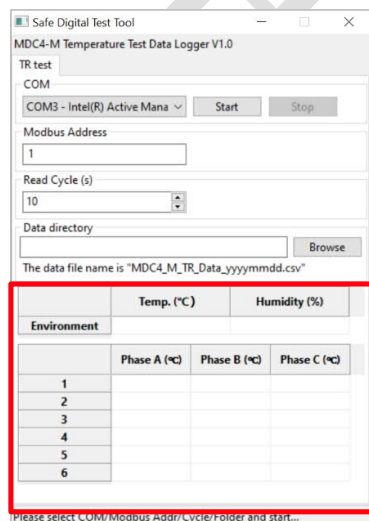

Figure 5 Main interface of TR_Data_Logger_V1.0
7. Record the temperature data by using "TR_Data_Logger_V1.0", its main interface is shown in Figure 5 below:
- e) If communication is built successfully, humidity and temperature data will be displayed in the bottom area marked with red rectangular in Figure 5